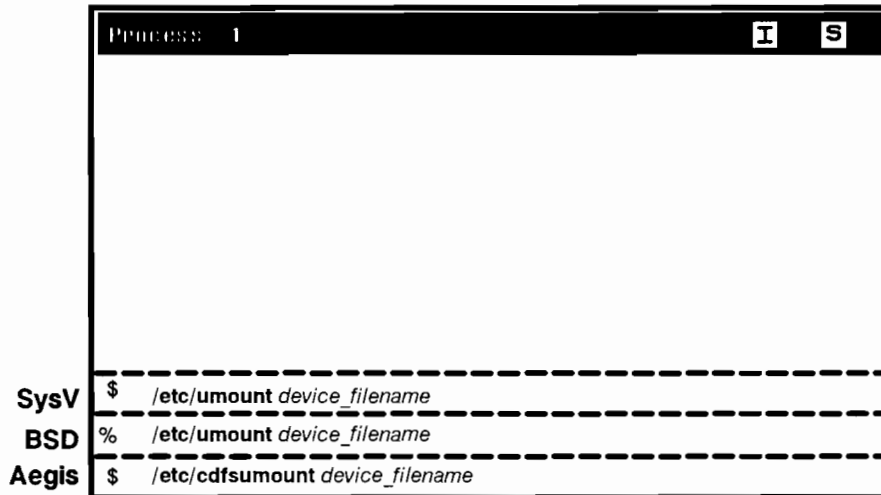

Figure 5-12. Dismounting the CD-ROM
4. Dismount the CD-ROM disk before ejecting it from the drive. To dismount the CD-ROM disk, enter the following command as shown in Figure 5-12: